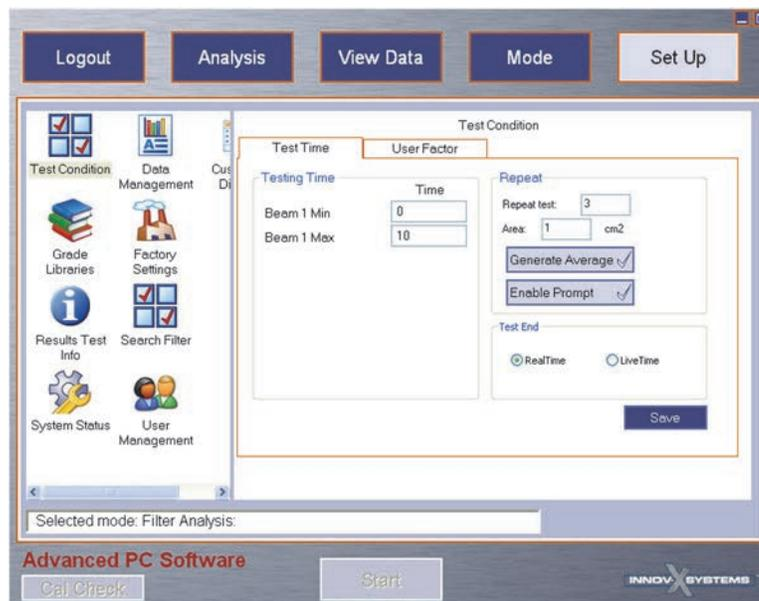

Figure 5-1 The Set Up window – Filter Analysis mode
Mode setup involves setting test conditions using the **Test Time**, **User Factor** (Dust Wipe and Filter Analysis), and **Lead Paint Option** (Lead Paint only) tabs. Settings are accessed from the **Test Condition** pane (see Figure 5-1 on page 79).
1. Select the appropriate mode, and then click **Set Up** (see Figure 5-1 on page 79).